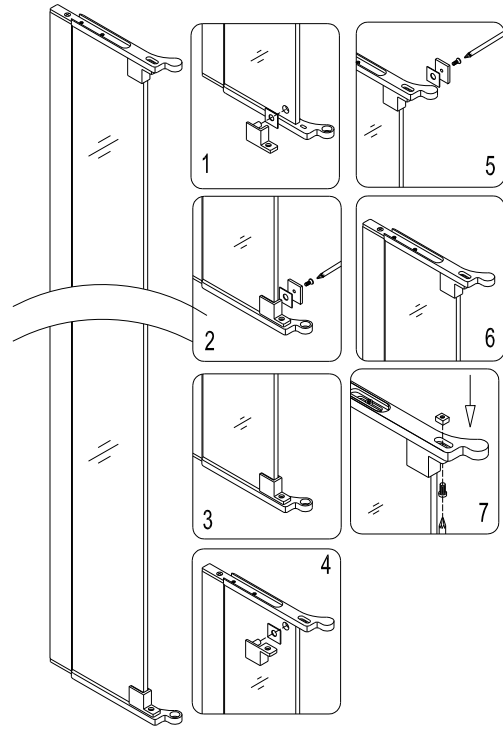

Fig 6
6. Attach the **Glass fixer (10)** onto the stationary glass; then secure it to the stationary glass using **Fixing nut with M4×12 screw (13)**. See Fig 6 for details.